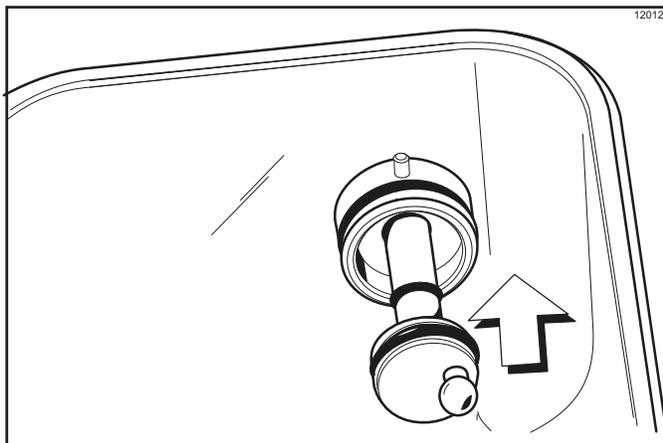

Figure 6-26
- Install the hex end of the driveshaft into the drive hub at the rear wall of the mix hopper. (See Figure 6-26.)